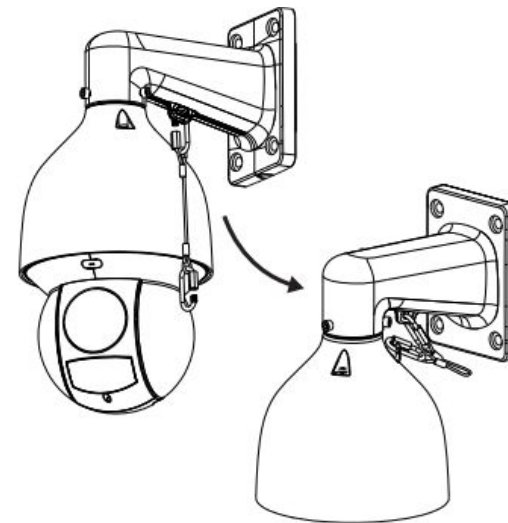

Figure 2-7
**Step 3** Connect one end of the safety cable to the speed dome and the other end on the mounting bracket hook, as shown in Figure 2-7. Installation is complete once you confirm all screws are tightened securely and the safety cable is installed properly.